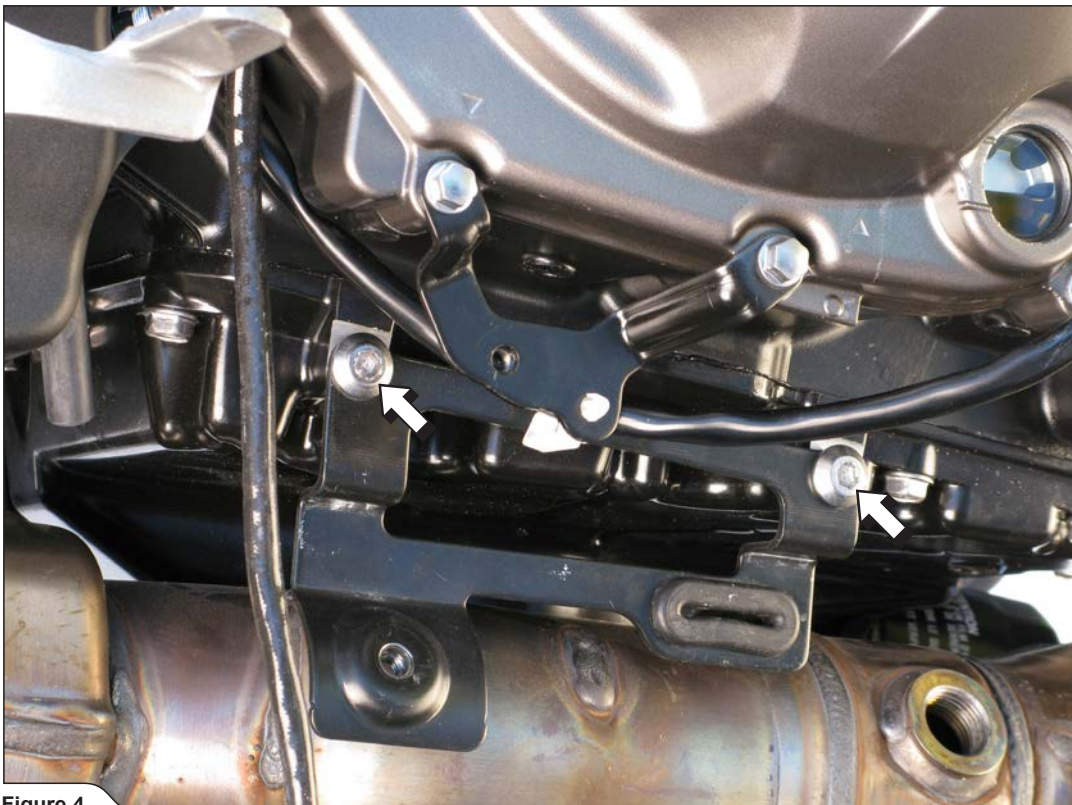

Figure 4
5. For Z1000 model only: unscrew the marked bolts and remove the heat shield's bracket off the motorcycle (Figure 4).